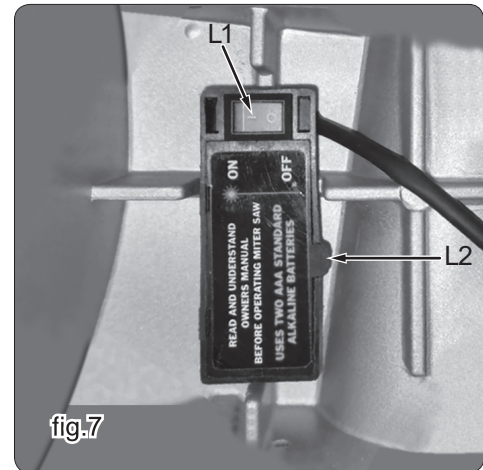

fig.7
1. Locate the red laser switch (L1, fig.7) on the **battery compartment at the right side of the cutting head assembly, behind the motor housing.**
2. Press the retention tab (L2, fig.7) and lift the switch/cover off the laser battery compartment.